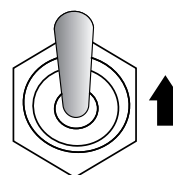

Figure 39. Control Power Switch (ON)
4. Place the **Control Power switch** in the **ON (up)** position. See Figure 39.